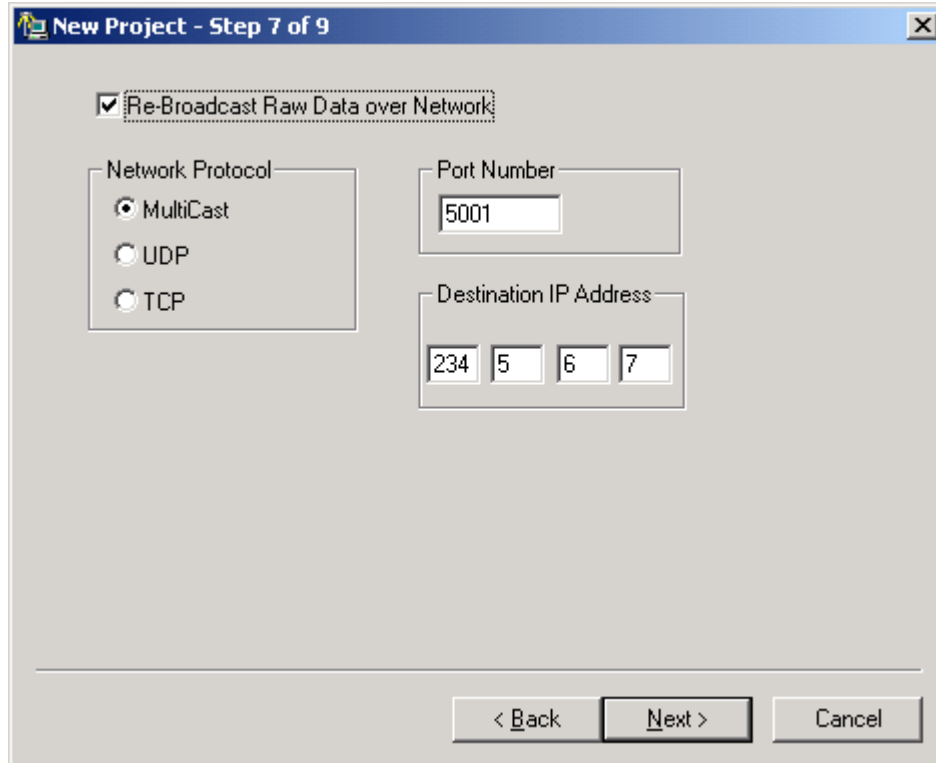

Figure 8.4 Re-broadcast GPS data over a Network (Optional)
23. GPS data collected by direct link to the GPS receiver can be rebroadcast over a local or wide area network. An example of this is as follows. Computer #1 collects GPS data on a serial port from the GPS receiver. It rebroadcasts this GPS data on Multicast port #5001, group IP 234.5.6.7 (see above). Computer #2 is in a different section of the building and of course is not directly linked to the GPS unit. Referring to Figure 8.4, Computer #2 elects to receive the re-broadcast data through TCP/IP on Multicast port #5001, IP address 234.5.6.7. Thus 2 different computers in different locations can collect data from one GPS receiver and view that data in real-time, even though only one computer is directly linked to the receiver. In principle, this technique can be used to re-broadcast data using TCP protocol over existing internet connections.